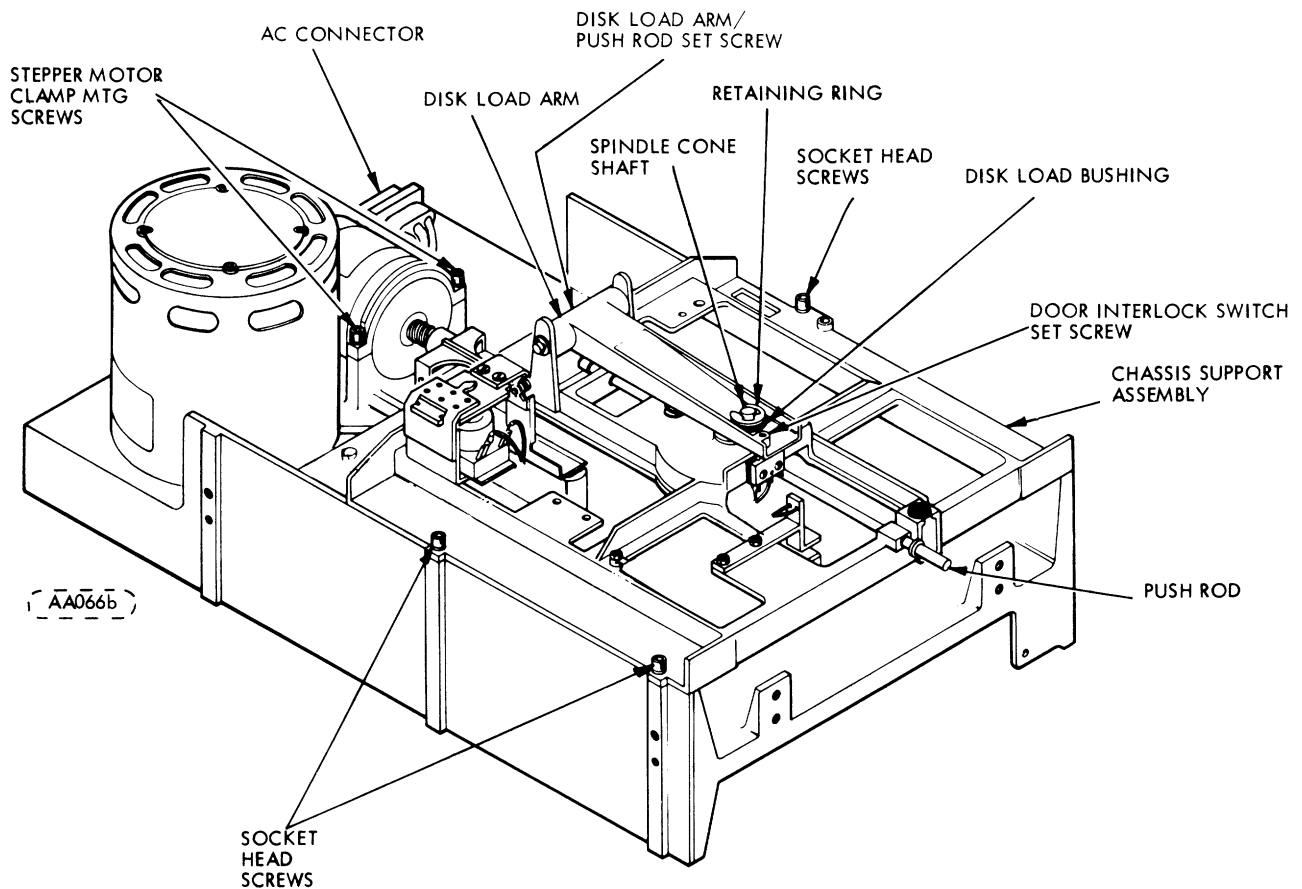
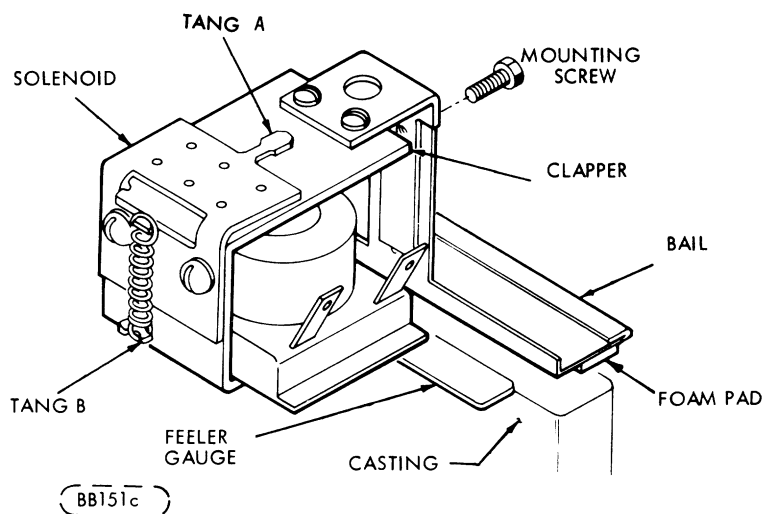

FIGURE 6-9. CHASSIS BASE ASSEMBLY
FIGURE 6-10. DISK LOAD SOLENOID
- h. If not in alignment, loosen the stepper motor clamp mounting screws to where a gap exists between the clamp and casting (see Figure 6-9) and slowly rotate the stepper motor to adjust the amplitude until the amplitude of both lobes is the same, that is, the difference between the bottoms of both lobes is less than 5 mV.
This procedure must be performed whenever chassis support (Figure 6-9) is removed and replaced.
- a. With front panel door closed, verify that a gap exists between the retaining ring and the disk load bushing of approximately 0.030 inch (0.762 mm) (refer to Figure 6-9). Perform steps b and c if out of adjustment.
- c. Adjust disk load arm set screw (Figure 6-9) until gap is approximately 0.030 in. (0.762 mm), with door closed.
- b. With door closed, adjust set-screw at end of disk load arm (Figure 6-9) while holding door closed against metal stop. Adjust set-screw until micro-switch is almost adjusted flush to top of switch case. This ensures that as the nylon tips on the push-rod wear down, the switch will still close.
- c. Loosen mounting screw on bail (Figure 6-10).
- a. Loosen chassis support assembly (Figure 6-9).
- f. Secure socket head screws (Figure 6-9) and again recheck steps "c" through "e".
- b. To adjust, loosen the two hex-head screws holding the sensor mount in place. With the front panel door open, push down on the disk load arm (Figure 6-9) to insure that the disk is in the loaded position (Figure 6-10). At the same time, grasp the end of the envelope and move from side-to-side, and forward and backward while observing the WRITE-PROTECT signal at U5 pin 4/R36-East. Adjust the mount until the WRITE-PROTECT signal is present for any position of the envelope.
- c. Remove four (4) socket-head screws securing chassis support (Figure 6-9).
- d. Slide chassis support back far enough to clear push rod (Figure 6-9) of front panel and lift support clear of chassis.
- a. Place the tapered end of a flat-head screw driver between Tang A and solenoid clapper. (See Figure 6-10.)
- m. If not, bend the lower tang B, Figure 6-10, downward gently.